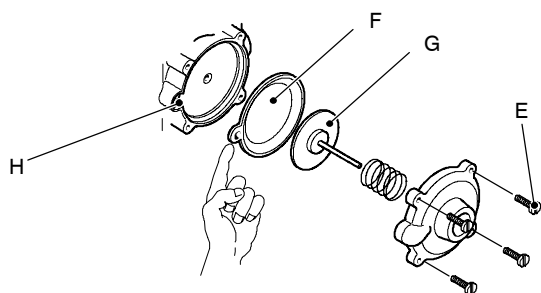

Fig. 62
- 3 Unscrew the four screws E (see Fig. 62) open the hydraulic operator and remove the membrane F.
**When assembling the membrane, ensure that its concave side faces towards the actuator plate G and the reference indicated aligns with the seat H (see Fig. 62).**